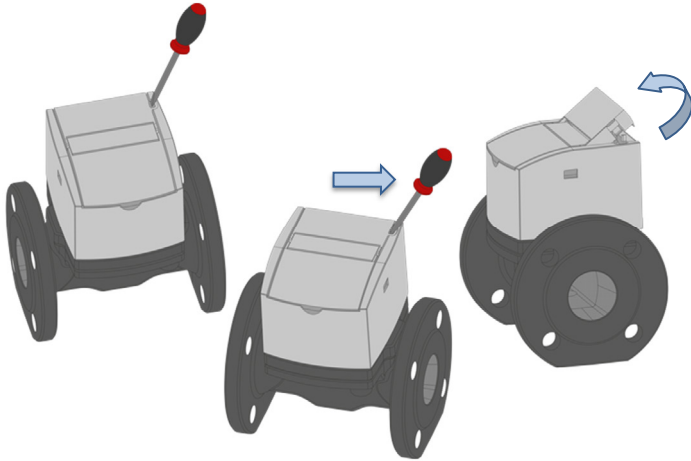

Fig. 28: Breaking of communication seal and lifting of module lid
Step 1: Remove communication seal and open module lid, as shown in Fig. 28.